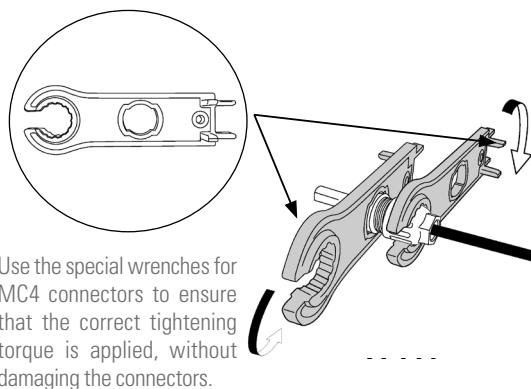

Fig. 19. Using an open-end wrench.
- f. Use an open-end wrench to screw the nut all the way in and make sure that the terminal is sealed well, as shown in Fig. 19: